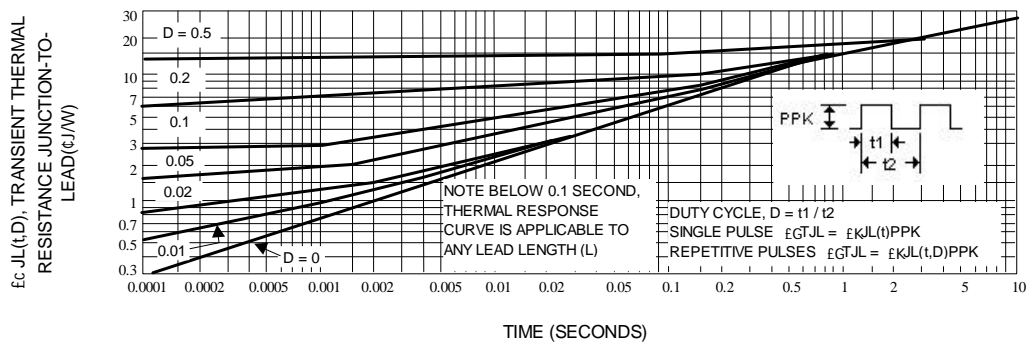
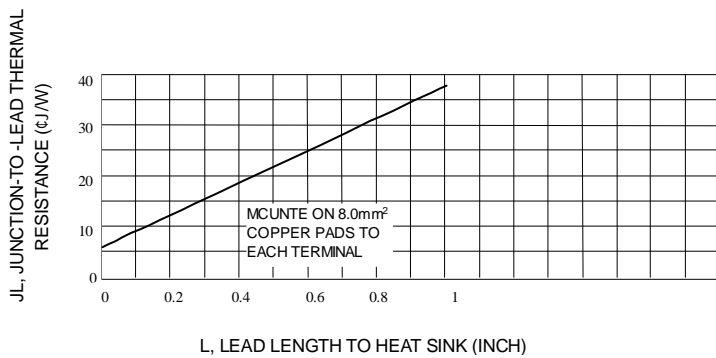
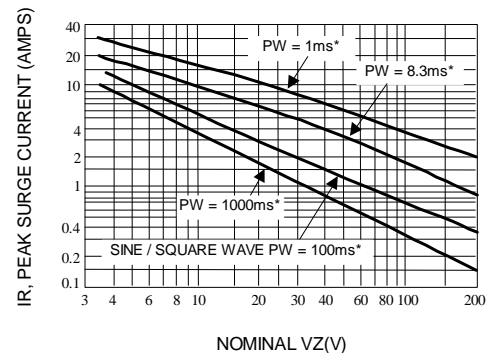
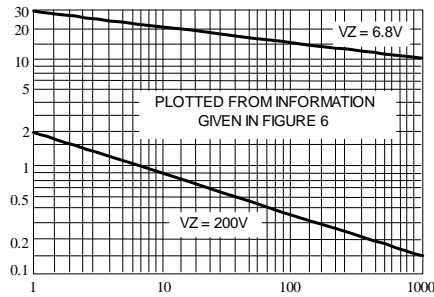

Fig. 3-TYPICAL THERMAL RESPONSE
Fig. 4-TYPICAL THERMAL RESISTANCE
Fig. 5-MAXIMUM NON-REPETITIVE SURGE CURRENT VERSUS NOMINAL ZENER VOLTAGE (SEE NOTE 3)
Fig. 6-PEAK SURGE CURRENT VERSUS PULSE WIDTH(SEE NOTE 3)
3. SURGE CURRENT (I_r) - Surge current is specified as the maximum allowable peak, non-recurrent square-wave current with a pulse width, PW, of 8.3 ms. The data given in Figure 5 may be used to find the maximum surge current for a square wave of any pulse width between 1 ms and 1000ms by plotting the applicable points on logarithmic paper. Examples of this, using the 6.8v and 200V zeners, are shown in Figure 6. Mounting contact located as specified in Note 3. ($T_A=25 \text{ }^\circ\text{C}$).
θ_{JT} is the increase in junction temperature above the lead temperature and may be found from Figure 3 for a train of power pulses or from Figure 4 for dc power.
Data of Figure 3 should not be used to compute surge capability. Surge limitations are given in Figure 5. They are lower than would be expected by considering only junction temperature, as current crowding effects cause temperatures to be extremely high in small spots resulting in device degradation should the limits of Figure 5 be exceeded.
*** Data of Figure 3 should not be used to compute surge capability. Surge limitations are given in Figure 5. They are lower than would be expected by considering only junction temperature, as current crowding effects cause temperatures to be extremely high in small spots resulting in device degradation should the limits of Figure. 5 be exceeded